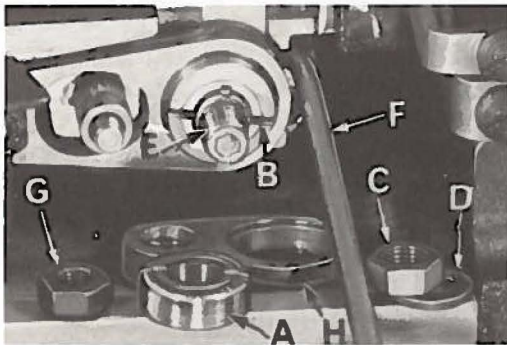

Fig. 16
If eccentrics are unusually tight fitting, in addition to removing nut (C) and washer (D, Fig. 16) from shaft (E), it may be helpful to remove nut (G) and feed driving connection (H). Then continue as originally suggested.